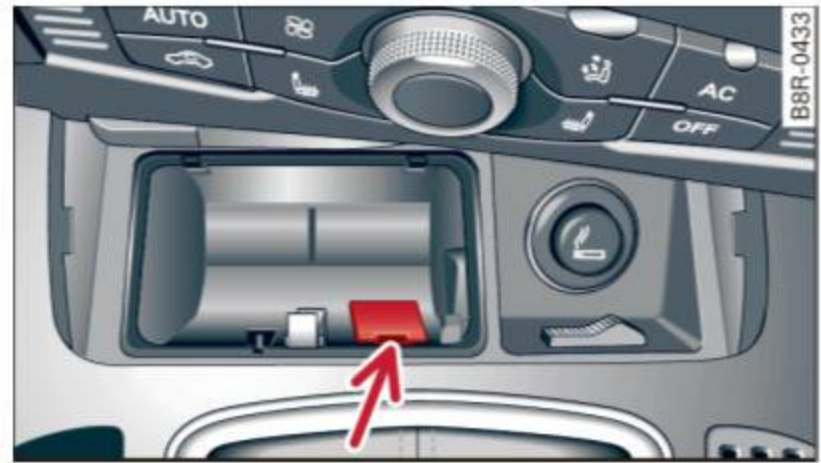

Fig. 96 Selector lever emergency release
- ▶ You now have access to a pin. Using a screwdriver or similar object, press the pin down and hold it in that position ⇒ fig. 96.